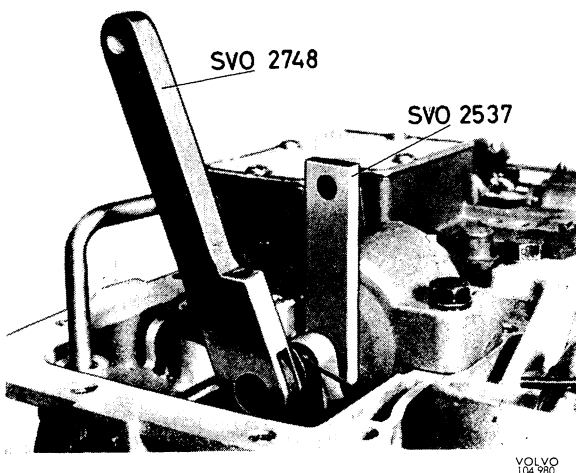

Fig. 4-110. Adjusting front brake band
26. Place the spacer block SVO 2537 between the bolt and cylinder, see Fig. 4-110. Tighten the bolt with torque wrench SVO 2748 until the ratchet handle clicks out. This corresponds to a torque of 11.5 kpcM (10 lb.in.).